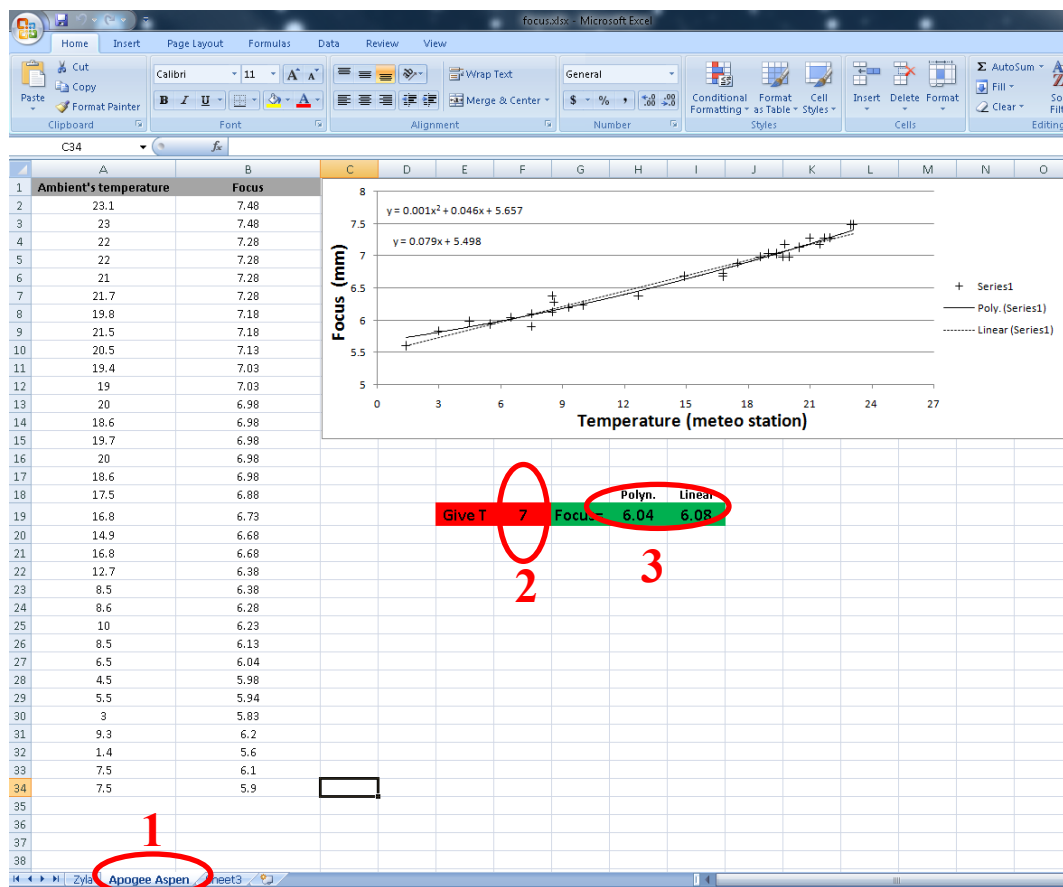

Fig. 5.6. The focus-ambient temperature empirical relation.
2. Click on the sheet “Apogee Aspen” (Fig. 5.6 No 1).
12. In the xlsx file (Fig. 5.6) add the new values for the temperature and focus and save changes³.